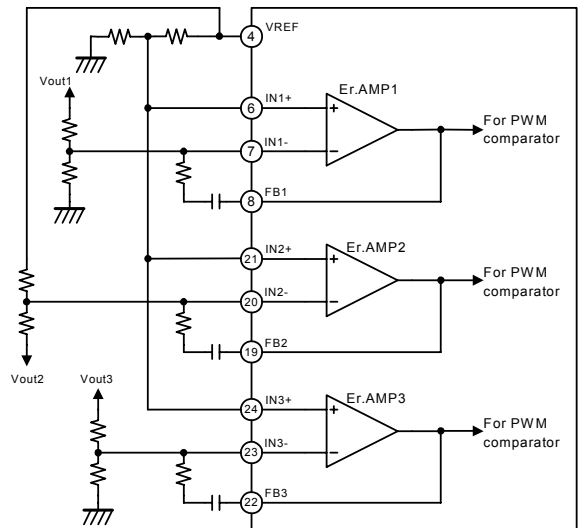

Fig.3
**(3) Error amplifier**
Error Amplifier has the inverting input  $IN^*(-)$  Pin (Pin7, Pin20 and pin23) and non-inverted input  $IN^*(+)$  Pin (Pin6, Pin21 and pin24) outputting externally, various circuit can be designed by kinds of external circuit structures. FB Pins (Pin, Pin19 and pin22) are the outputs of Error Amplifiers. Voltage Gain and phase compensation can be set by connecting a capacitor (C) and a resistor (R) between FB Pin and  $IN^*(-)$  Pin.(Fig. 3) For more information about the connection for each output voltage of power supply, refer to Design Advice.
**(4) PWM comparator**